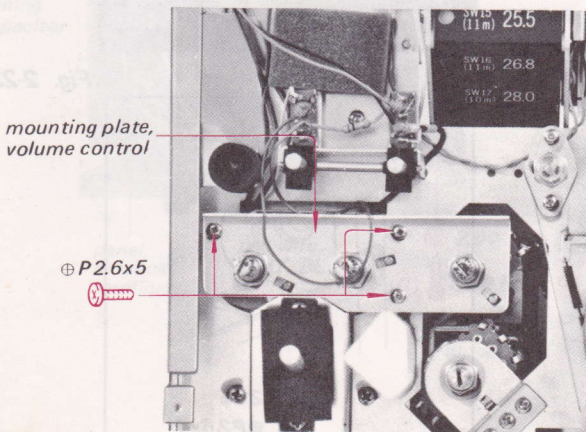

Fig. 2-27
1. Remove the three screws which hold the volume control mounting plate as shown in Fig. 2-27.